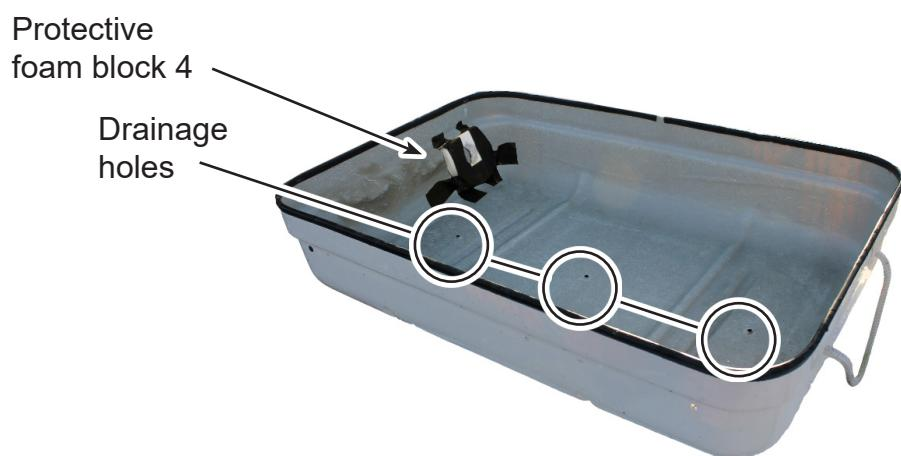

FIGURE 820A
Refer to **Figure 820A**
- (a) Make sure that there are drainage holes in the Low Profile container. Refer to **Figure 820A**.